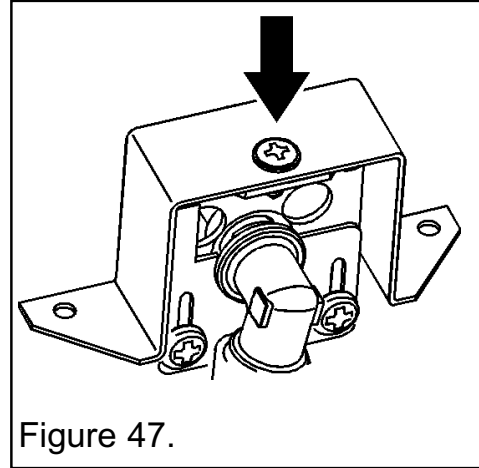

Figure 47.
2. Remove the burner clamping screw (See figure 47)